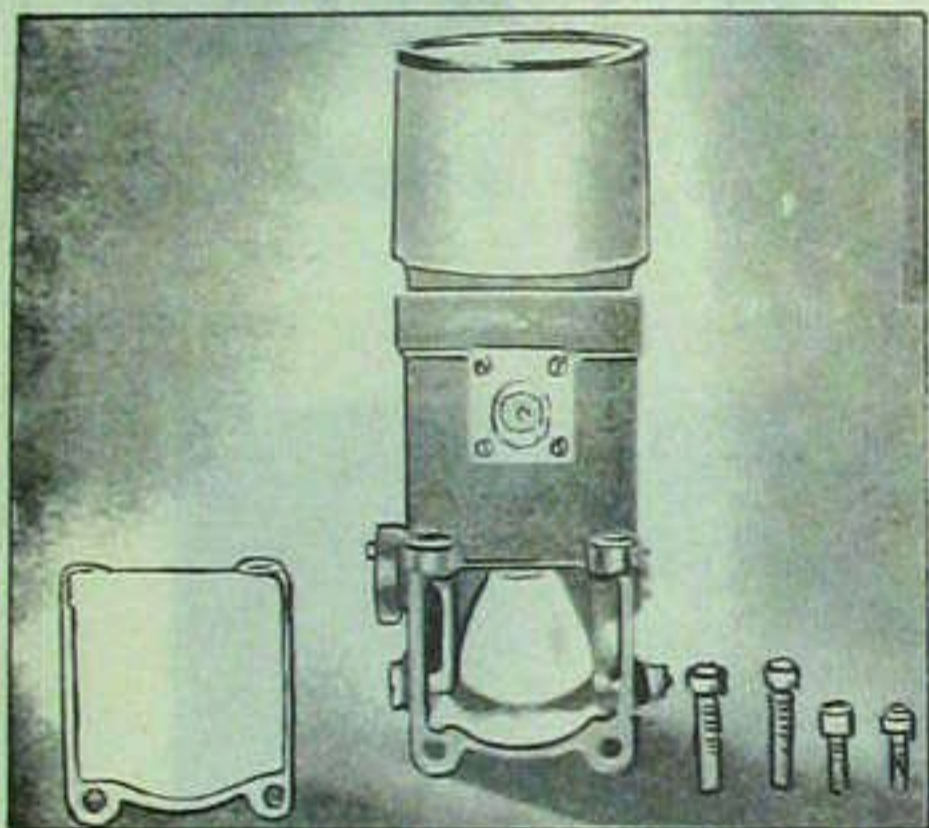

FIGURE 3.
- (b) Knock out the pin holding the deflection knob, using a 1/16 inch drill rod punch. (See Figure 3). Unscrew the deflection knob lock, then unscrew the knob and the long screw which passes through the reticle mount.